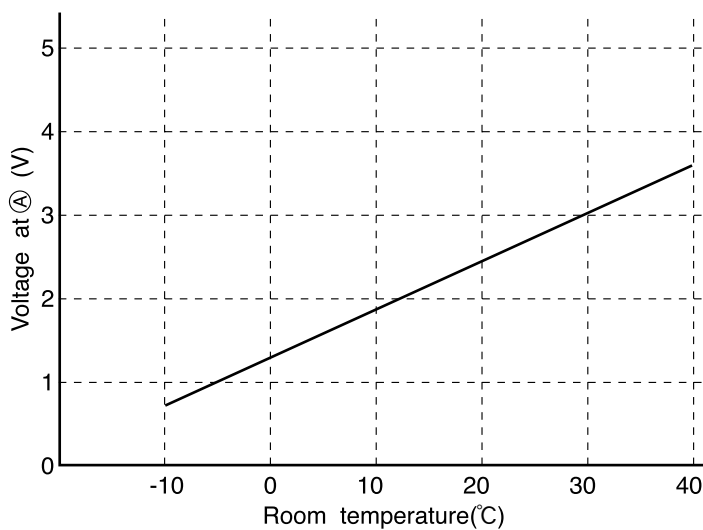

Fig. 6-2
- (1) Preheating.
- (2) Low-temperature defrosting during cooling and dehumidifying operation.
- (3) Detection of the reversing valve non-operation or heat exchanger temperature thermistor open.
The voltage at ① depends on the heat exchanger temperature as shown in Fig. 6-2